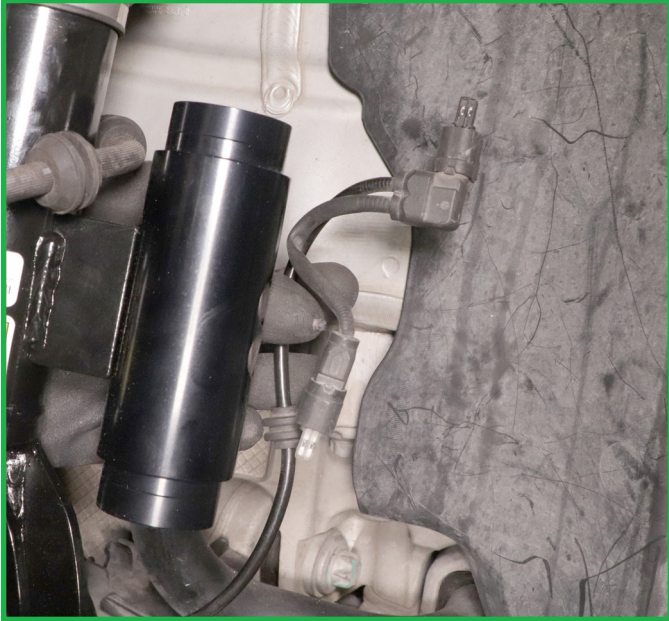

FIGURE 20
5. Route and connect the electrical connections to the strut. Make sure all wires are secure and away from sources of friction and heat. (Figures 20, 21)